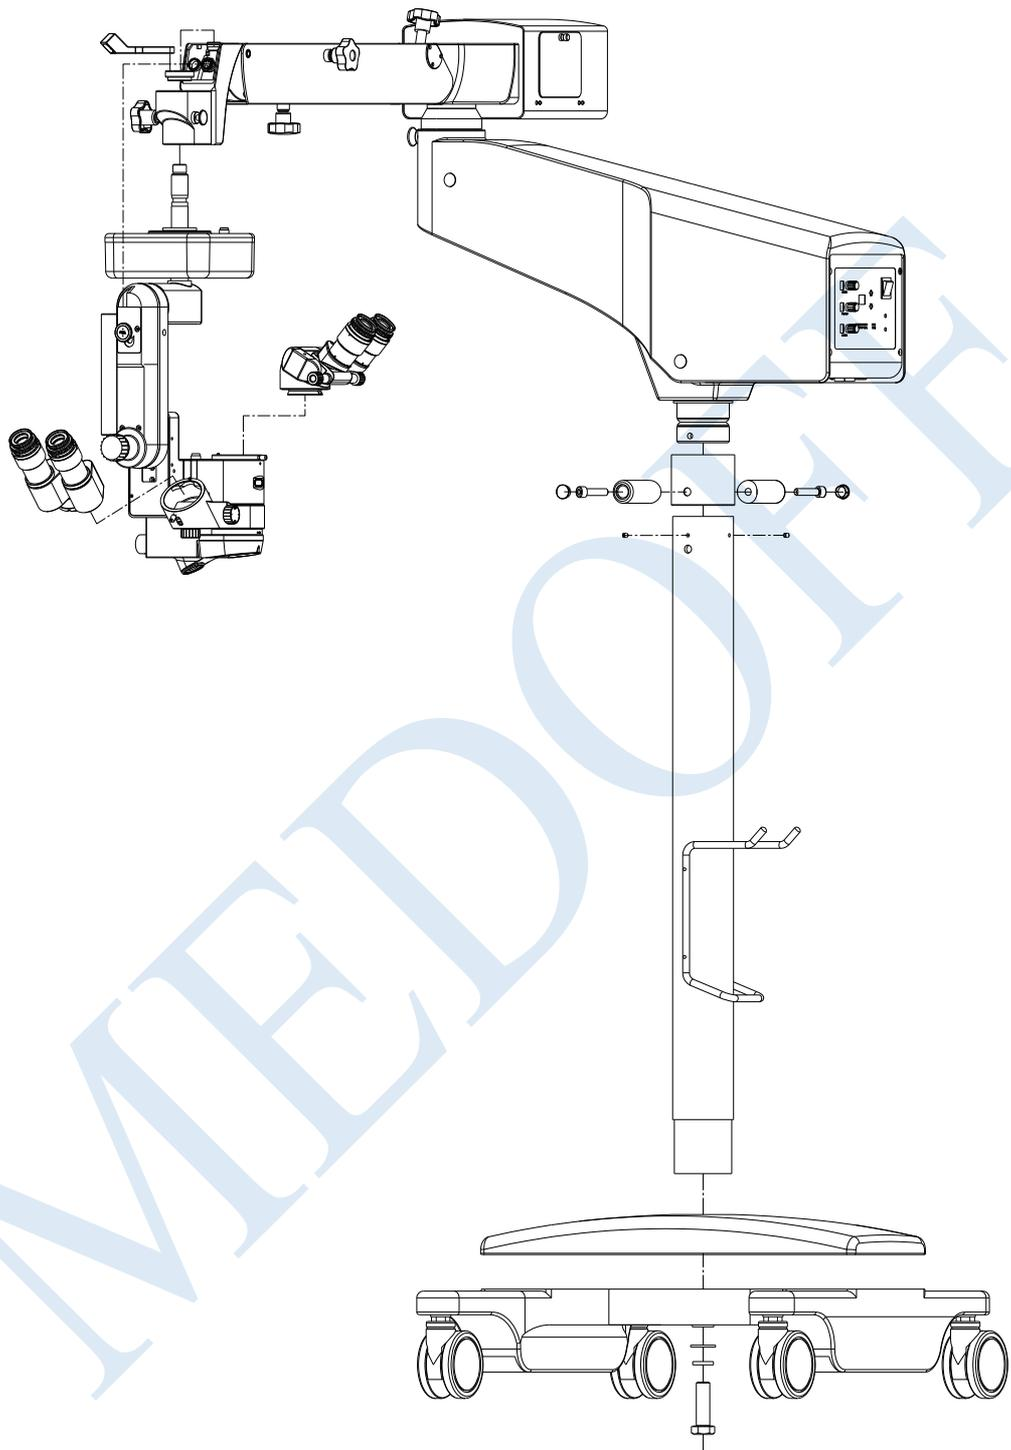

Fig.5
2. Insert the column into the Balance Block vertically (Notice that there are two Position Hole of 90° at the bottom of the column), and then rotate the column to the needed direction. Then insert the Hexagon screw together with the spring washer and the flat washer from the beneath into the column (indicated in Fig. 5). Note insert the spring washer first, then the flat washer.
Take out the plastic cover, the removing handle[17] and the hexagon screws. Set the decorative hoop[16] on the column. Screw off the 4 hexagon cone screws with the 4mm hexagon spanner from the column to make the decorative hoop lower than hole wall. Take out the arm from the packing case and assembly it to the column, and then screw down the 4 hexagon cone screws with the 4mm hexagon spanner. Assembly the decorative hoop, the removing handle, the hexagon screws, and screw down them with the 8mm hexagon spanner, then screw the plastic cover on the top of the column with the removing handle[17](indicated in Fig. 5).
6. Connect the 8-pin plug[12] of the holding arm with the 8-pin socket[12] of the Second Arm. Notice that the inner groove of the plug should comply with the direction of the notch of the socket edge during the connection(indicated in Fig. 5).
4. It's the same as the above 3 items when assembling the assistant microscope. The fixation screw should be fastened till the hands cannot move it(indicated in Fig. 5).
2. Insert the fiber optics into the hole of the rotation connector[5], then pull it through the protection tube[63] behind the inclination arm, then plug the fiber optics[7] into the hole[60] of the illuminator(indicated in Fig. 5).